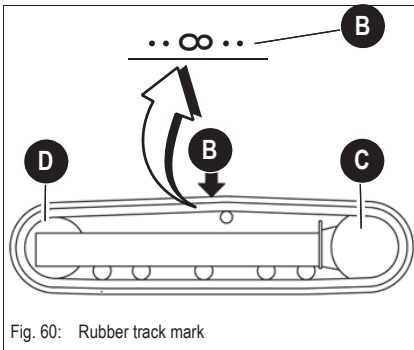

Fig. 60: Rubber track mark
- ☞ The rubber track has a mark **B** as shown in Fig. 60